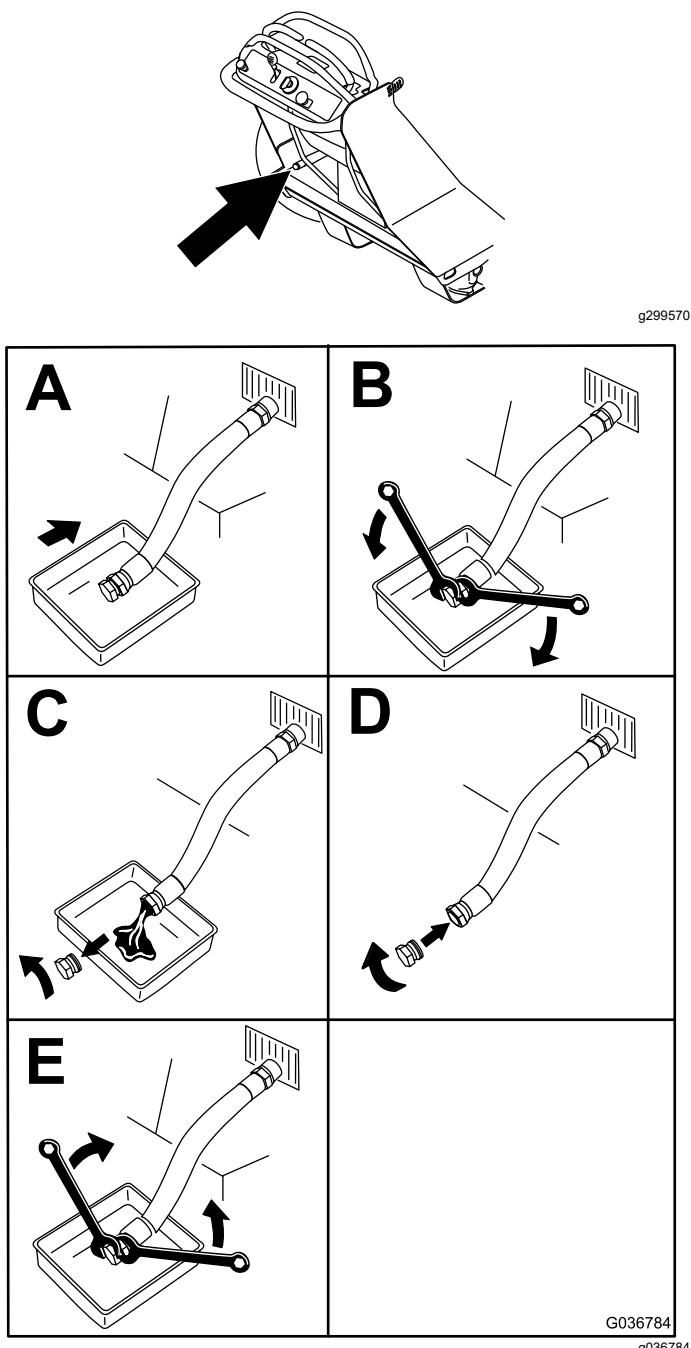

Figure 33
4. Change the engine oil as shown in Figure 33.